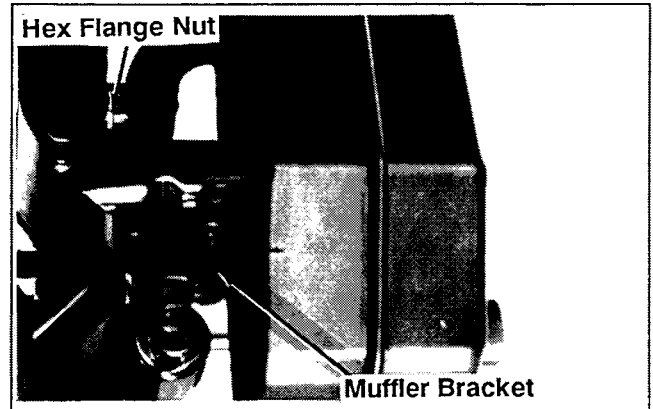

Figure 11-52. Installing Muffler.
2. Secure the muffler to the muffler bracket using the two hex flange screws. See Figure 11-52.